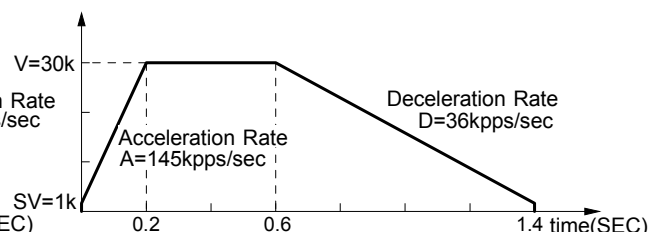
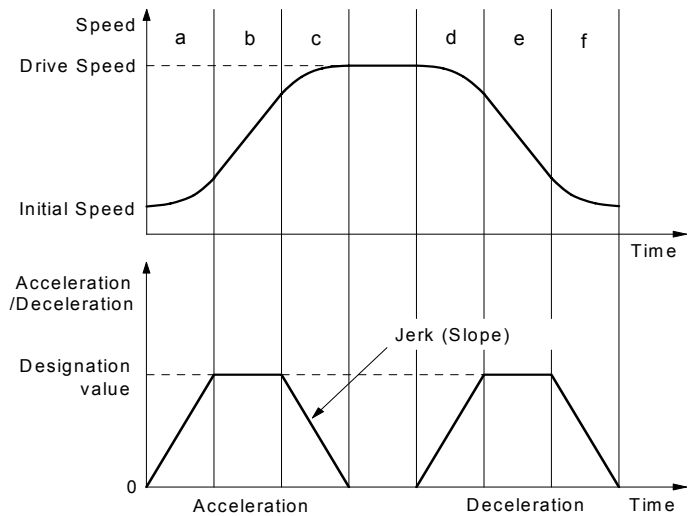

Fig.2.11 Non - Symmetrical Linear Acceleration Driving (acceleration>deceleration)
Fig.2.12 S-Curve Acceleration/Deceleration Driving
This IC can perform automatic deceleration in fixed driving in non-symmetrical linear acceleration where the acceleration and the deceleration are different. It is not necessary to set a manual deceleration point by calculation in advance. Fig. 2.11 shows the case where the deceleration is greater than the acceleration and Fig. 2.12 shows the case where the acceleration is greater than the deceleration. In such non-symmetrical linear acceleration also, the deceleration start point is calculated within the IC based on the number of output pulses P and each rate parameter.
- In the case of acceleration > deceleration (Fig. 2.12), the following condition is applied to the ratio of the acceleration and the deceleration.
- If acceleration > deceleration (Fig. 2.12), the greater the ratio of acceleration A to deceleration D becomes, the greater the number of creep pulses becomes (about maximum of 10 pulse when A/D=10 times). When creep pulses cause a problem, solve the problem by ①increasing the initial speed or ②setting a minus value to the acceleration counter offset.